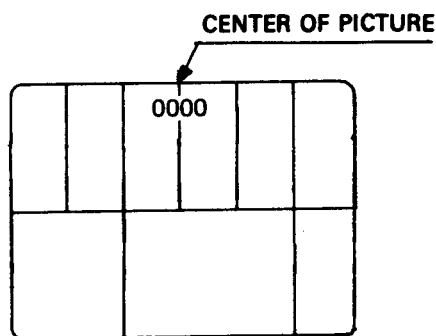

Fig.13
4. Adjust OSD position control (VC303) so that OSD sets on the center of TV monitor. (See Fig.13)